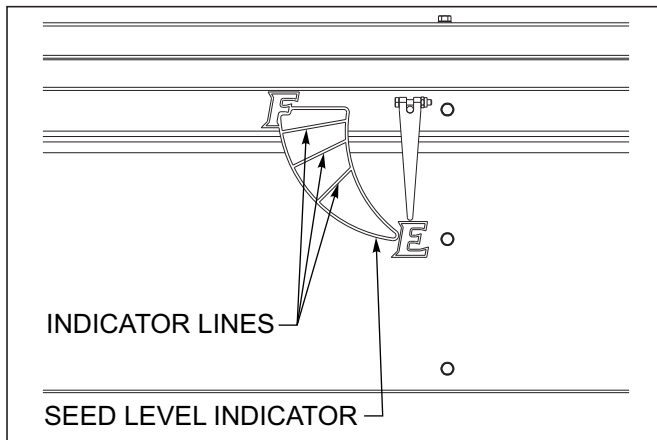

Figure 4-19: Seed Level Indicator
1. Each seed box has a visual seed level indicator to show the approximate volume of seed available in the seed box See Figure 4-19. A float inside the box sets upon the top level of seed to indicate the seed level. The float will raise when the seed box lid is open to allow for filling.